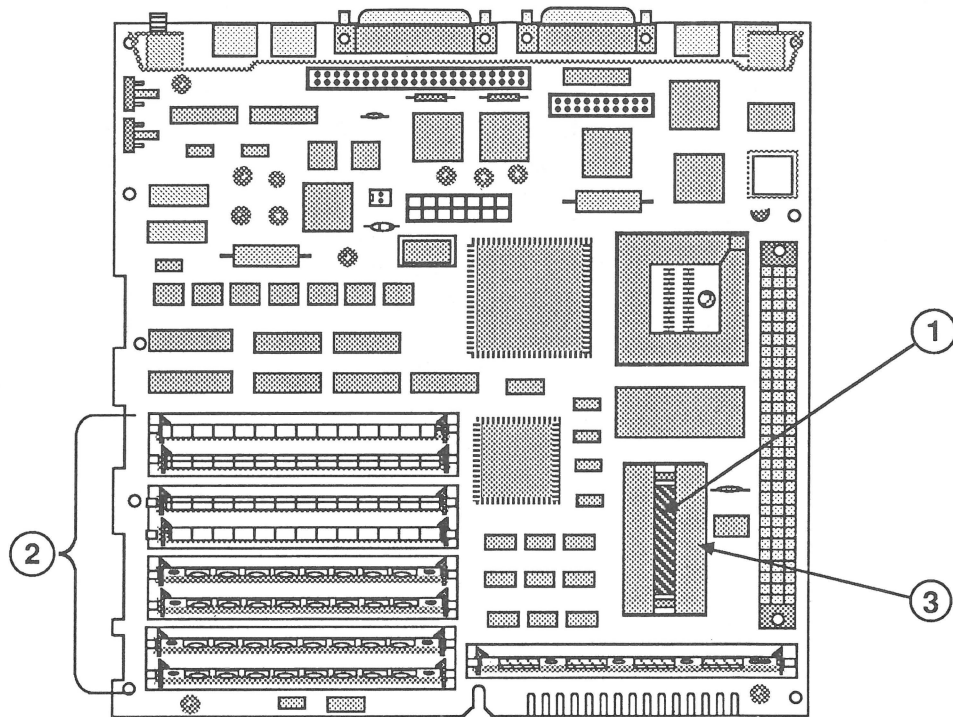

FIGURE 6
□ LOGIC BOARD—MACINTOSH SE/30 (Figure 6)